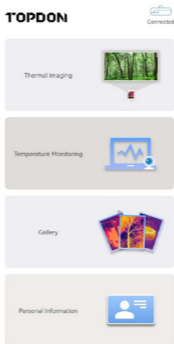

Figure 3.1.3
3. Open the TC001 app. The icon at the top right of the home screen displays "**Connected**" (see figure 3.1.3).